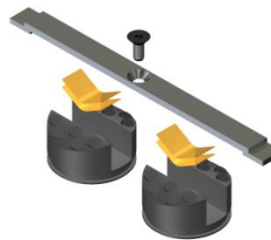

Fig. 4
**NOTE8:** Install two (2ea) springs per button (Fig. 4).